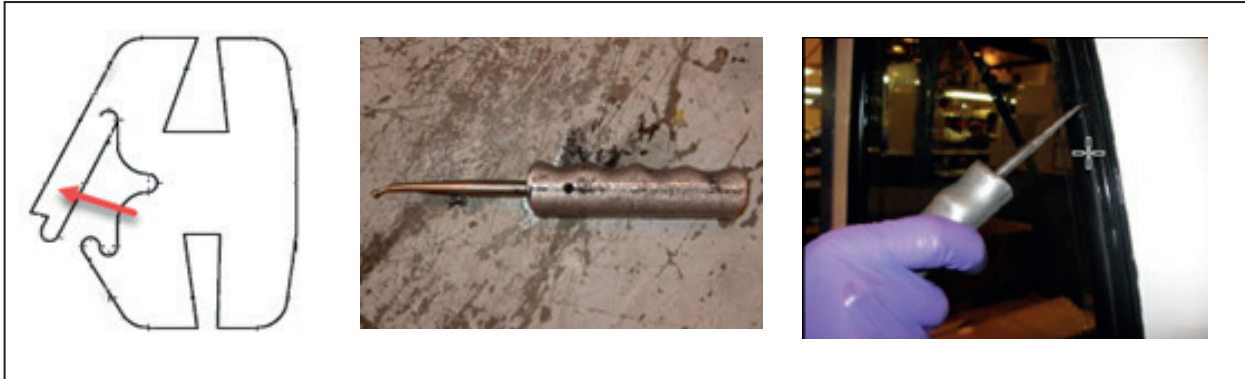

Figure 5 - Unlocking the Rubber Extrusion
- 1.6. When the area is dry, unlock for the rubber extrusion with a lock insertion tool (see figure 5).